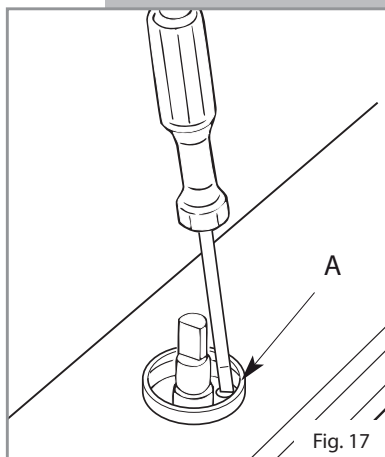

Fig. 17
- Turn the screw "A" to the correct setting with a screwdriver (fig. 17).